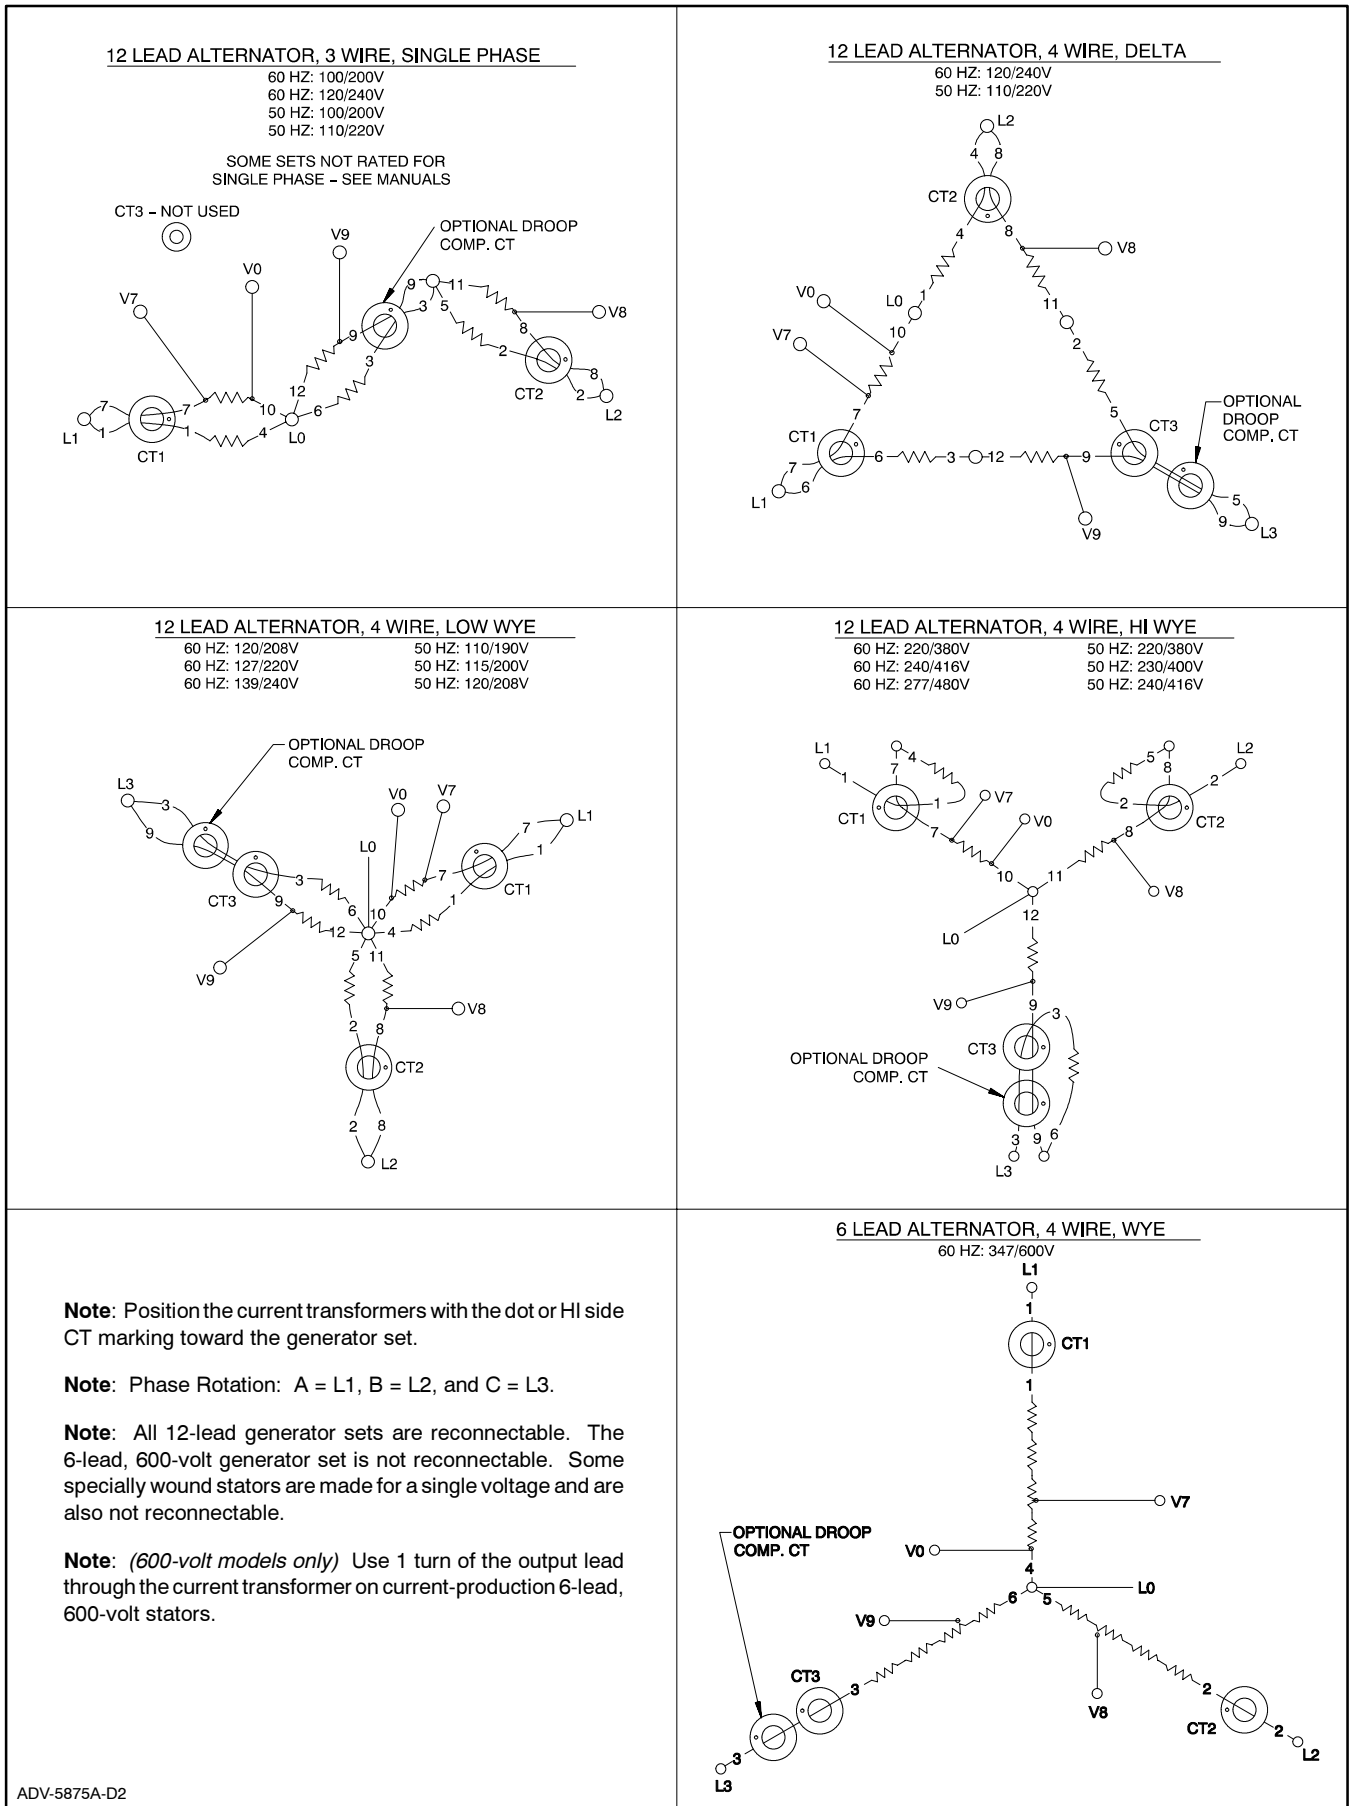
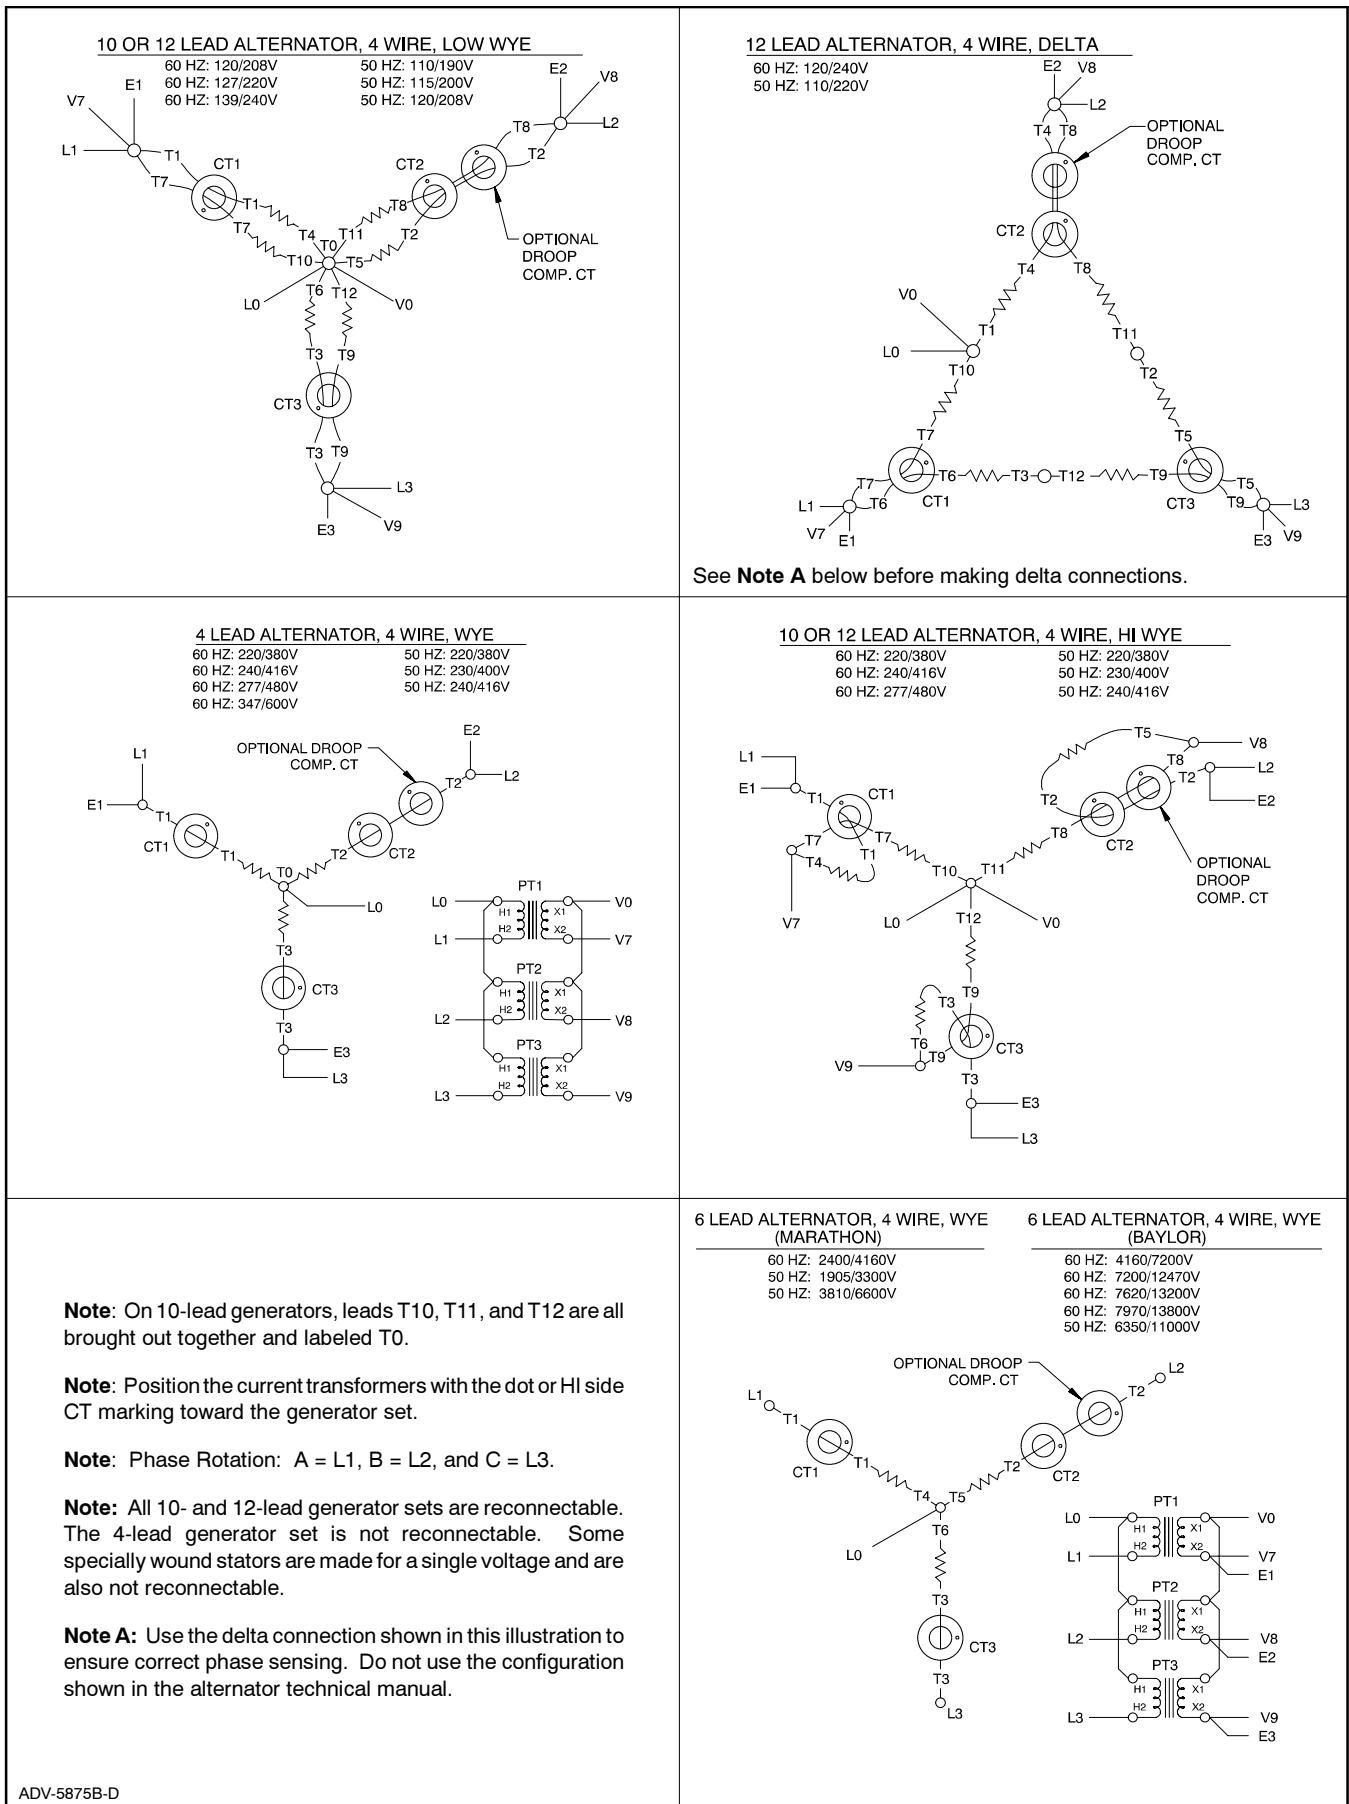

Figure 5-1 Generator Set Reconnections, 20-300 kW Models
Figure 5-2 Generator Set Reconnections, 350–2000 kW Models
3. Use Figure 5-1 or Figure 5-2 to determine the generator set voltage configuration. Note the original voltage and reconnect as needed. Route leads through current transformers (CTs) and connect them according to the diagram for the desired phase and voltage.